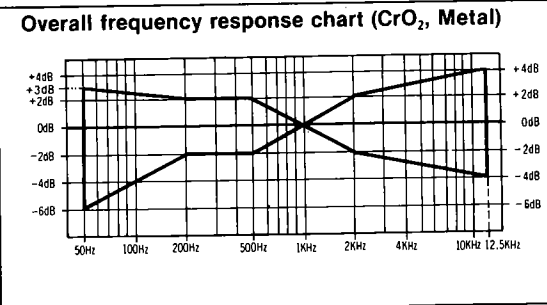

Fig. 14
- Change test tape to CrO₂ reference blank test tape (QZZCRX), and record 1kHz, 50Hz, 100Hz, 200Hz, 500Hz, 4kHz, 8kHz, 10kHz and 12.5kHz signals. Then, playback the signals and check if the curve is within the limits shown in the overall frequency response chart for CrO₂ tapes (fig. 14).
- Place UNIT into metal tape mode and change test tape to metal reference blank test tape (QZZCRZ), and record 1kHz, 50Hz, 100Hz, 200Hz, 500Hz, 4kHz, 8kHz, 10kHz and 12.5kHz signals. Then, playback the signals and check if the curve is within the limits shown in the overall frequency response chart for metal tapes (fig. 14).